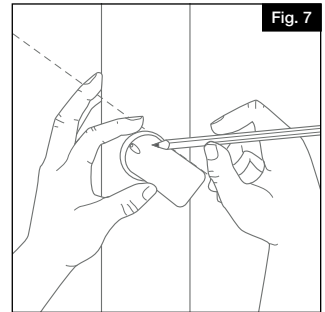

Fig. 7
- a. Align the post return according to the Hand Rail layout line and mark attachment hole positions (Fig. 7).